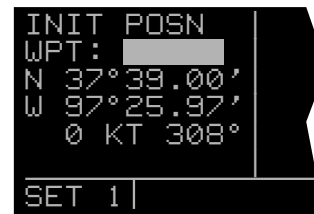

Figure 3-58
2. Press the left **CRSR** to bring the cursor on the page over the WPT field (figure 3-58).